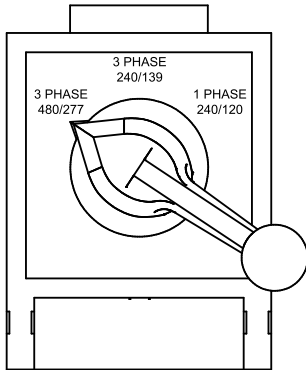

**Figure 18. Voltage Selector Switch
1. Place the **Voltage Selector switch** in the **3-phase, 480/277-volt position** as shown in Figure 18.